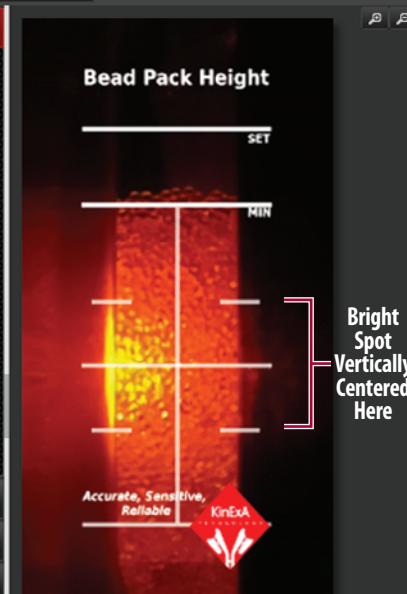
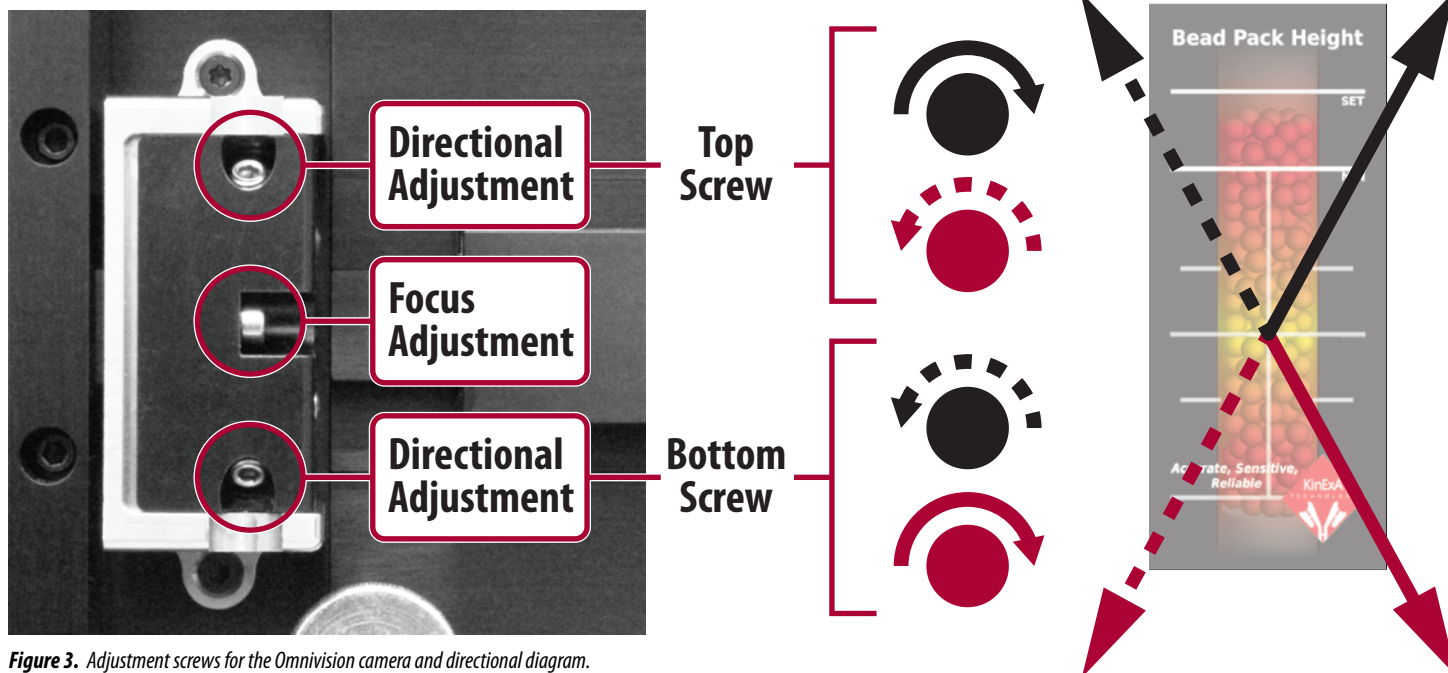

Figure 2B. Camera Image with the flow cell and bright spot correctly aligned with the grid lines.
Figure 3. Adjustment screws for the Omnivision camera and directional diagram.
7. Use **Figure 3** to identify the adjustment screws of the camera.
9. Use the directional adjustment screws to **vertically align the bright spot of light** and to **horizontally align the flow cell** in the center of the grid lines (**Figure 2B**). The camera does not move straight up, down, left, and right. **Figure 3** shows how turning the top and bottom screws will move the camera image seen in the software (**Figure 2B**). There is a slight delay in response on the computer monitor so be patient for the screen to update after slight movements. If preferred, the camera view can be zoomed by clicking the magnifying glass icons to the upper right of the camera image.